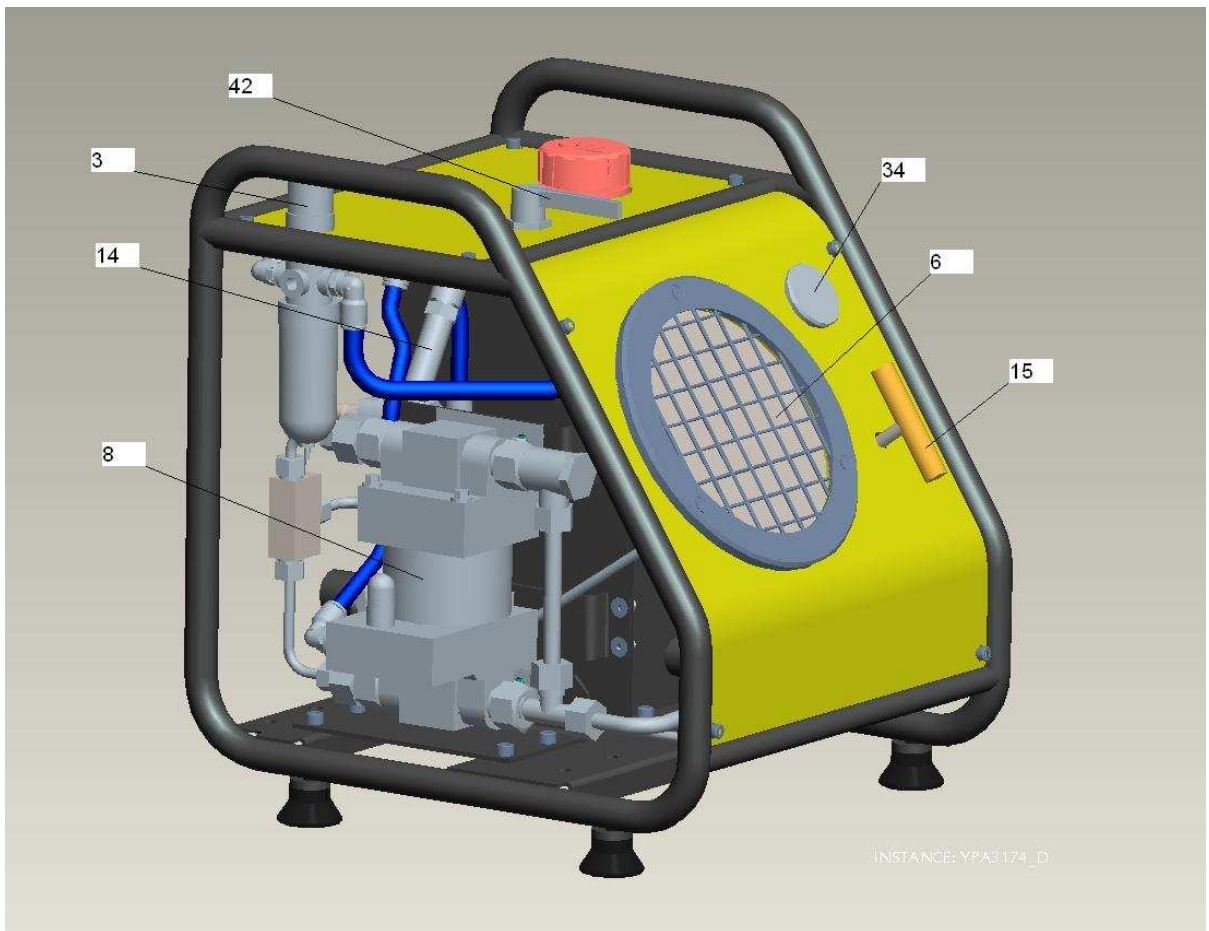
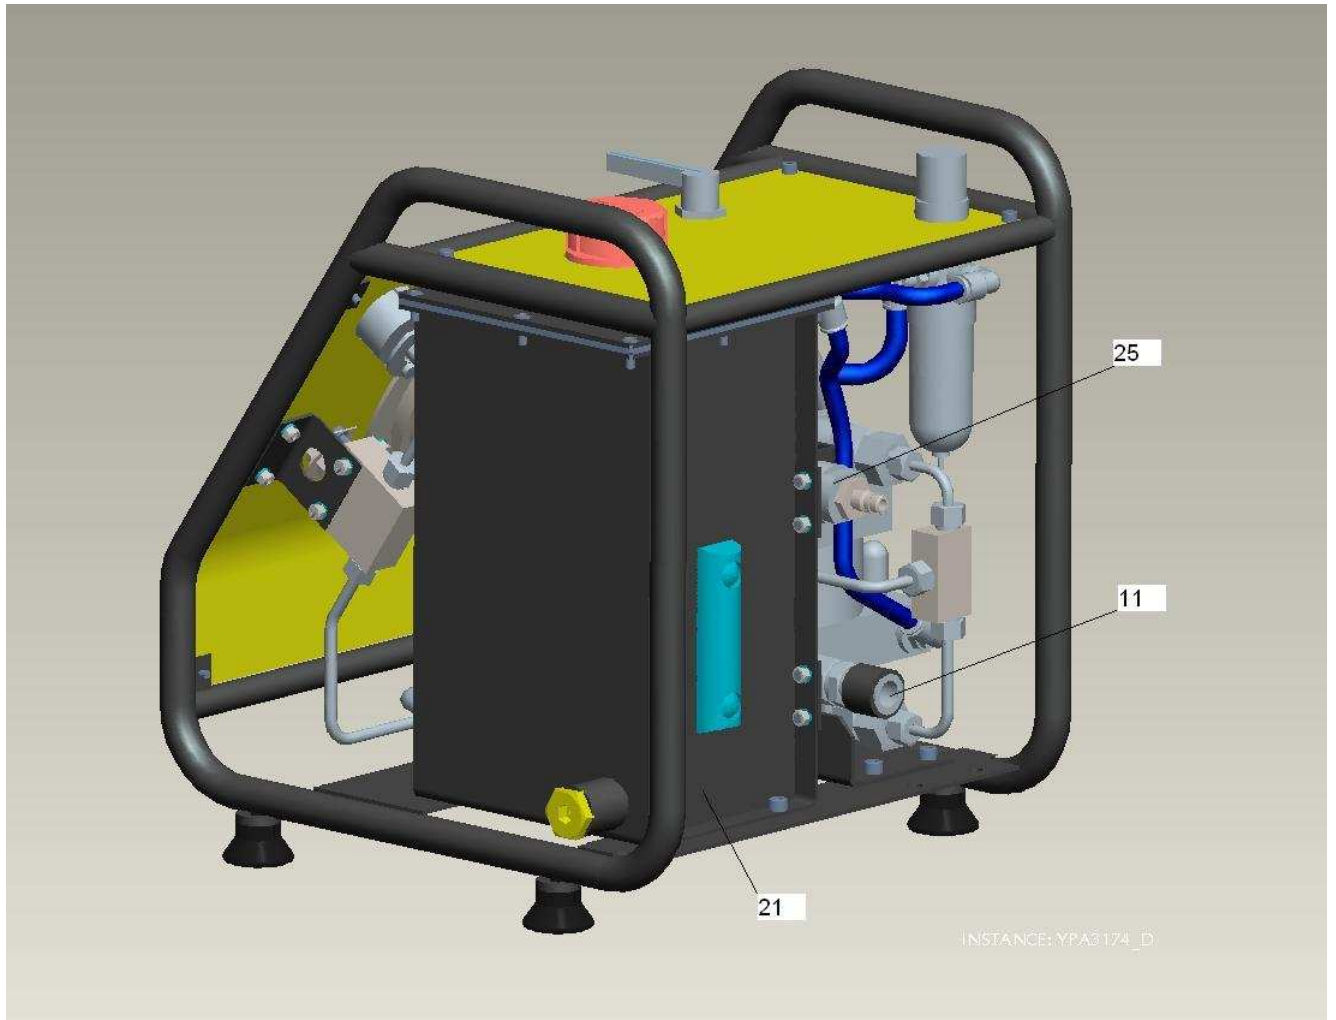

Figure 1
Figure 2
The "ENERPAC" air driven hydraulic pumps model **YPA3174D** , are manual pumps realised for single acting tensioners, the components are described in fig. 1 and 2, while the characteristics of the pump M189D are indicated in the graph page 7. In fig.2 we find the air input for alimentation of the pump (pos.25), made of a fitting with ½ BSP thread to be equipped with an air fitting, not include, compatible with the equipment where the pump will be used. The oil output(pos. 11) is a female rapid coupler